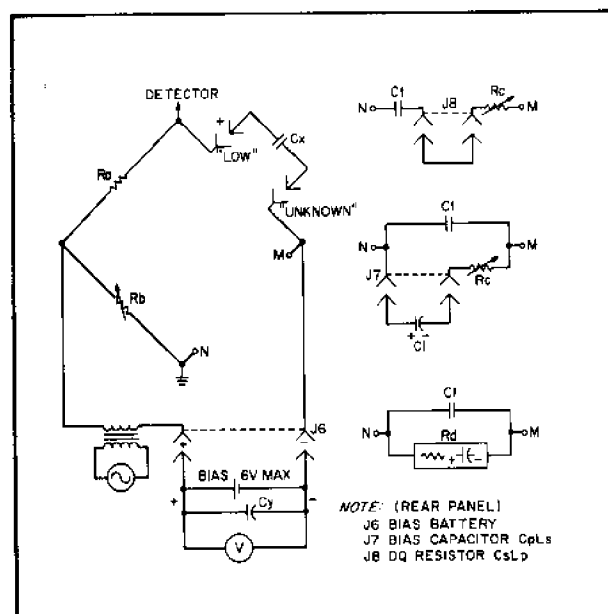

Figure 3-5. Dc Biased Capacitance Measurement
3-55. GENERAL. A dc bias voltage (6 vdc maximum) can be applied to capacitors such as electrolytic types during the C measurement. Figure 3-5 schematically illustrates the dc bias application. Operating procedure for dc-biased measurements is described below and pictorially shown in Figure 3-5. The following equipment will be required:
a. Connect the measurement setup as shown in Figure 3-5. All instrument cabinets except 4260A must be isolated from power line ground.